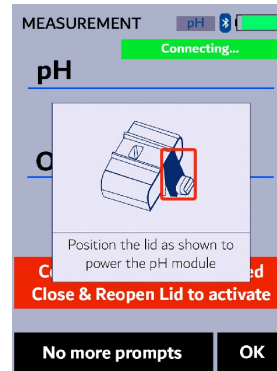

Figure 12.
**\*NOTE\*** If the pH/ORP module powers off or was not powered on to begin with (see step 1) an instruction message will be promoted on the screen showing how to turn on the pH/ORP module (Figure 12).